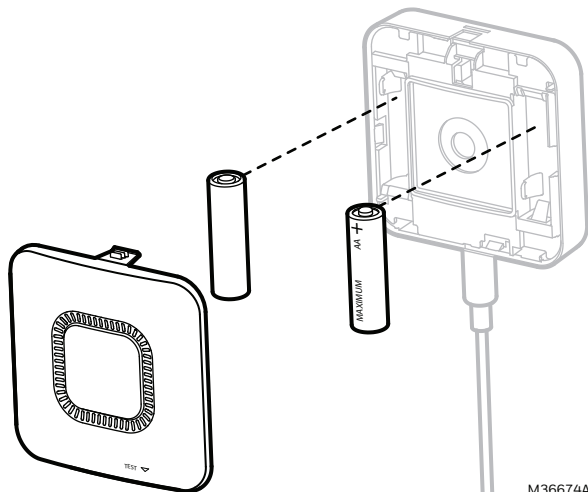

Fig. 1. Insert batteries.
2. Insert the cable plug into the jack on the bottom of the leak detector. See Fig. 1.